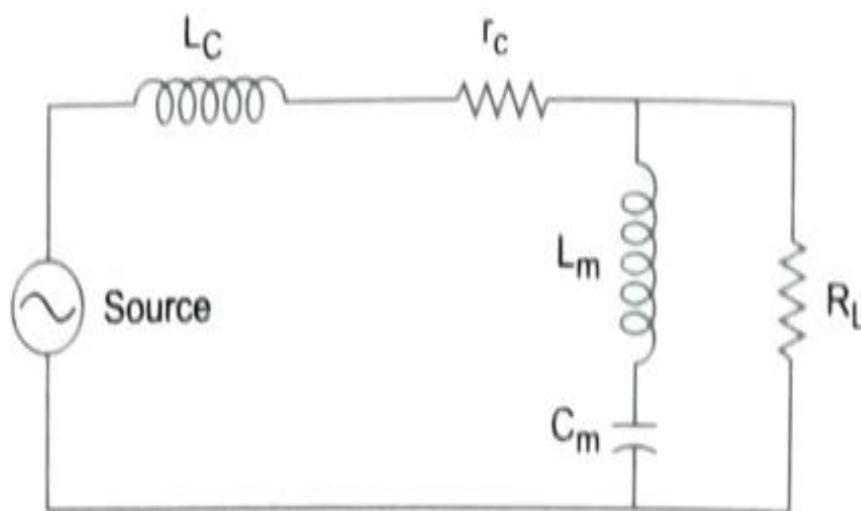

Fig. 6.3: *Equivalent Circuit of Moving Coil Loudspeaker*
- Fig 6.3 shows the equivalent circuit of a cone type loudspeaker.